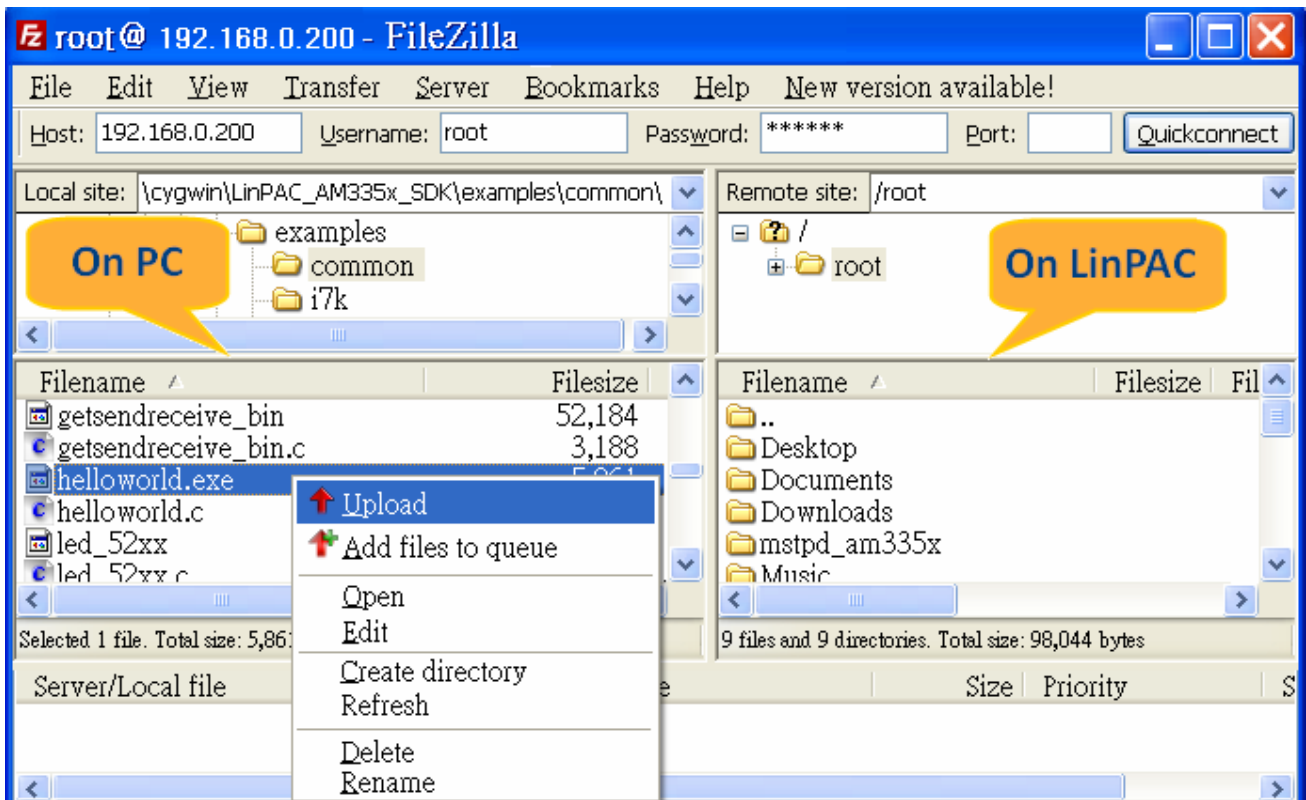

Fig. 5-6
- (2) Upload the “**Helloworld.exe**” file to the LP-8x21. (refer to Fig. 5-6).